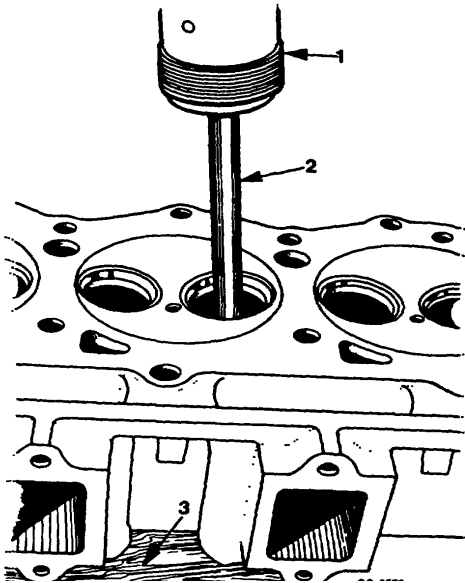

Figure 35. Removing Valve Guide
9. Remove cylinder head sling and position cylinder head (combustion chamber side up), on support fixture SE-2104 in press bed (Figure 35). Support fixture is designed to position valve guides vertically under press ram.
10. Using remover tool SE-1722 (Figure 35) press valve guide from cylinder head. All guides must be pressed out from the combustion chamber side through the top of the head.